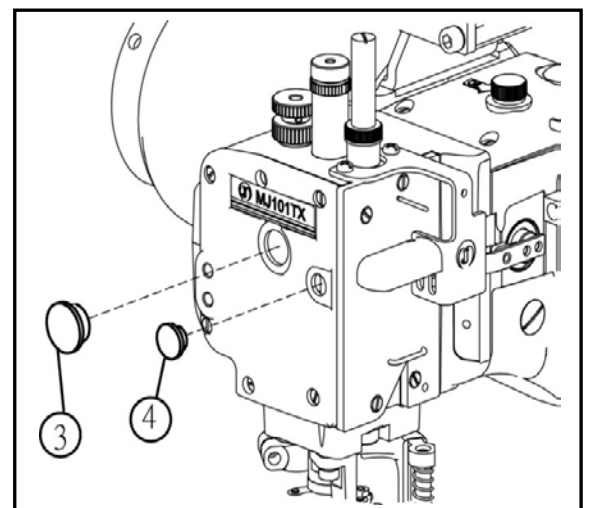

Fig. 6
- (1) Remove the seal plugs ③ and ④ to check the above-said clearance. (Fig. 6)